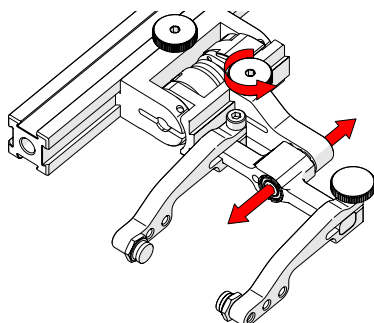

Fig. 44 - Adjust swing arm
3. Use the swing arm knob to position the swing arm (Fig. 44).
**TIP:** The swing arm is typically used to adjust TOFD center-to-center distance relative to the phased array probes on a four probe configuration (Fig. 44).